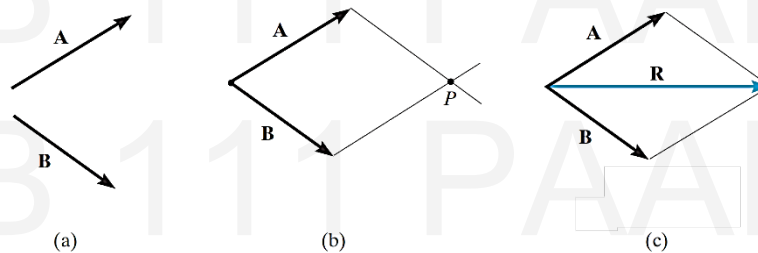

Figure 2–3: Vector Addition
All vector quantities obey the parallelogram law of addition. To illustrate, the two “component” vectors **A** and **B** in (Figure 2–3a) are added to form a “resultant” vector **R**.
- First join the tails of the components at a point to make them concurrent, Figure 2–3b.
- The diagonal of this parallelogram that extends to **P** forms **R**, which then represents the resultant vector  $\mathbf{R} = \mathbf{A} + \mathbf{B}$ , Figure 2–3c.
- We can also add **B** to **A**, Figure 2–4a, using the triangle rule, which is a special case of the parallelogram law, whereby vector **B** is added to vector **A** in a “head-to-tail” fashion Figure 2–4b.
- In a similar manner, **R** can also be obtained by adding **A** to **B**, Figure 2–4c.